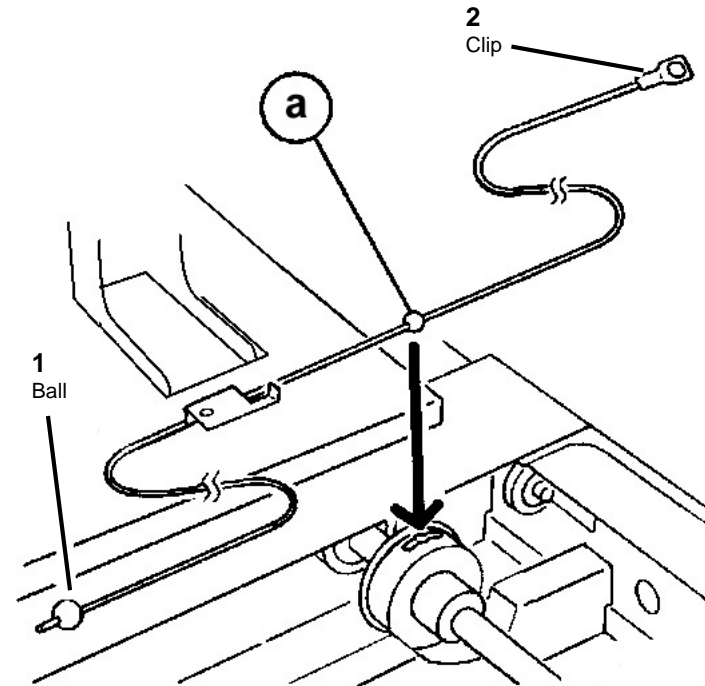

Figure 5 Inserting Carriage Cable Ball into Capstan Pulley
1. Insert the Carriage Cable into the Capstan Pulley. Figure 5